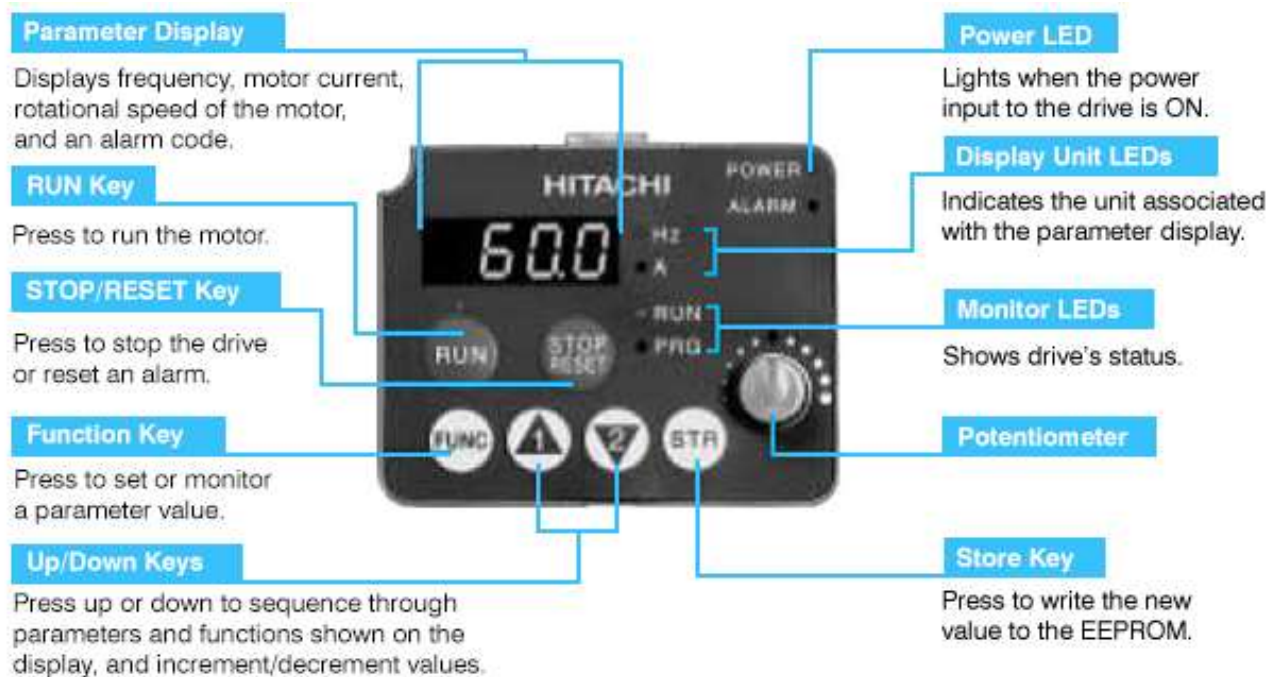

Figure 5.3.3.1
- The VFD is controlled by a Keypad/Display Interface. Refer to Figure 5.3.3.1 for Keypad/Display Interface functions and descriptions.